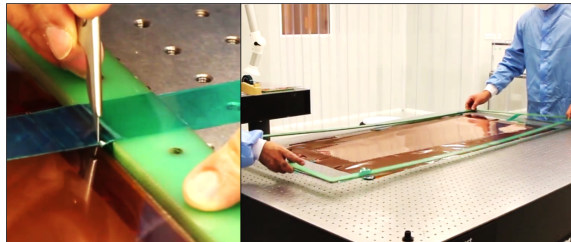

Figure 67: Detaching the GEM frame.
Step 18: Detach the foil from its frame by cutting the piece of tape (Fig. 67).